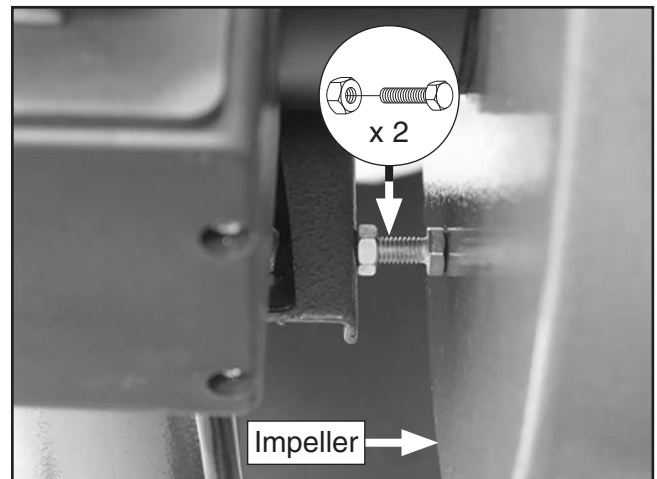

Figure 13. Location of motor plate bolts.
- Adjust (2) hex bolts on motor plate so bolt heads press against impeller housing (see **Figure 13**).
- Without moving bolts, tighten (2) hex nuts shown in **Figure 13** to secure bolts.